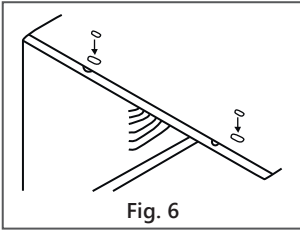

Fig. 6
- I. Add two foam inserts to holes in top of cabinet where shipping screws were removed from (see Fig. 6).
B. Attach foam gasket to top rail above holes as shown in Fig. 6.